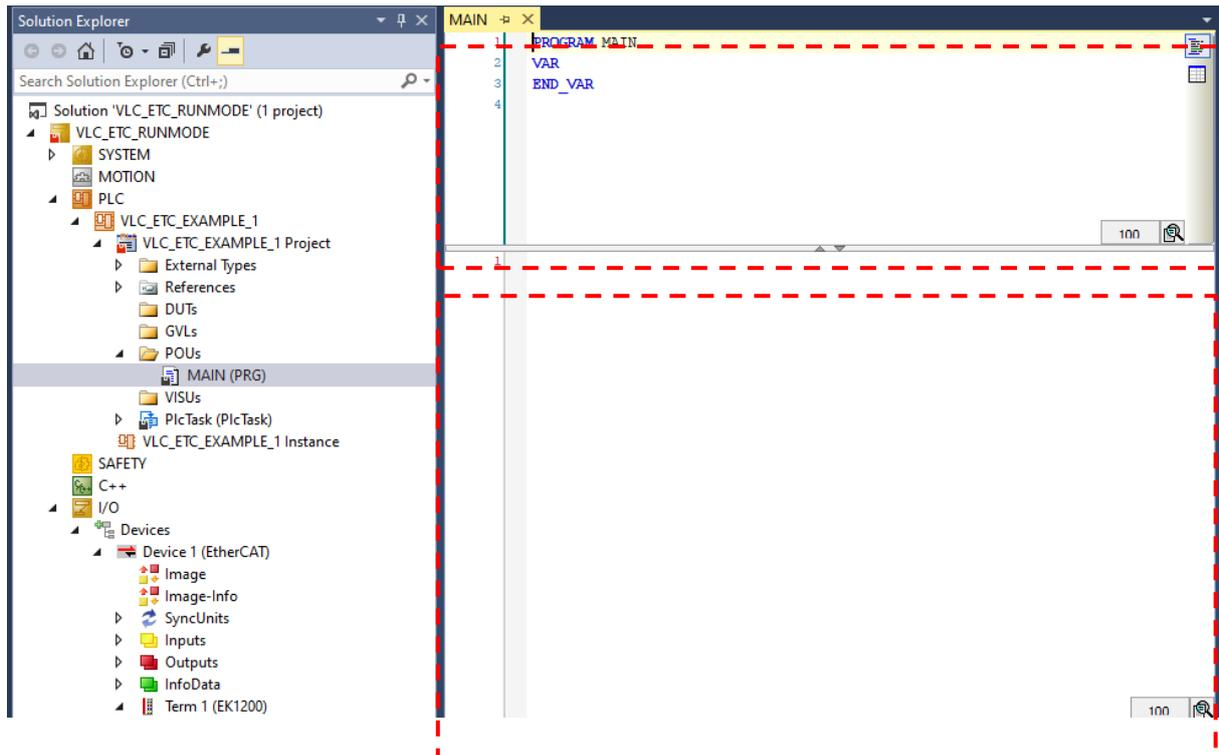

Figure 3.9. PLC main program editor in Structured Text language (default).
- Go to the PLC program editor as shown in the left pane of Figure 3.9. The top rectangle is where the program variables are declared, while the bottom one is where the program logic will be located. In this example, the sequence of motions consists of: phasing – homing – repetitive position move.